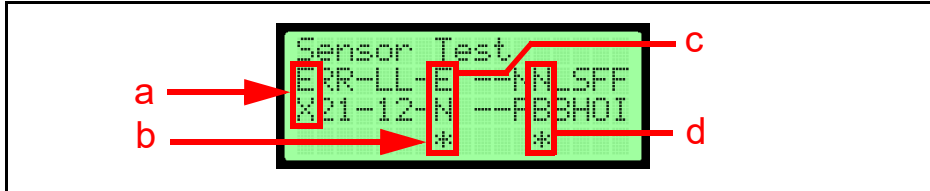

Figure 3 BlueWave™DX Tool Sensor Test Display (iVIZION Unit Device Test)
Figure 3 illustrates a sample BlueWave™DX Tool Sensor Test LCD Display for an iVIZION Unit Device Test. Each Sensor is identified using Line 1 and Line 2. As an example, the display shown in Figure 3 provides the following information:
- EX indicates the Exit Sensor (**Figure 3 a**);
- An Active Sensor condition is indicated by an * symbol displayed in the third line of the Sensor Test Display (**Figure 3 b**);
- EN* indicates the Entrance Sensor is active (**Figure 3 c**); and
- NB* indicates the Normal Box is installed (**Figure 3 d**).